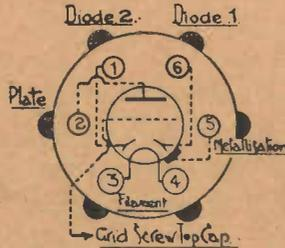

Fig. 13.
†Referring to Fig. 13, in the case of TDD2, socket connection No. 3 is negative filament, No. 4 positive filament, No. 1 A.V.C. diode, No. 6 detector diode. Type TDD2(S) has identical characteristics, but No. 1 socket contact is detector diode, and No. 6 A.V.C. diode.